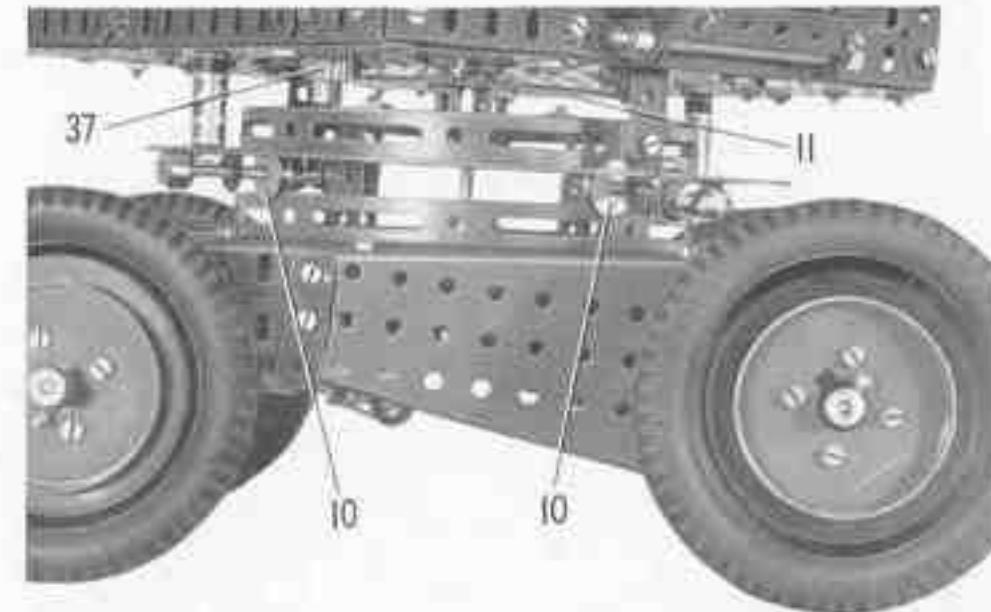

FIG. 5 A close-up of the roller bearing unit mounted in the wheeled base
Bevel Gear on a 1" Rod passed through the floor of the cab. A  $\frac{1}{2}$ " Pinion (37) (Fig. 5) on the lower end of the 1" Rod engages the Gear (11) of the roller bearing.